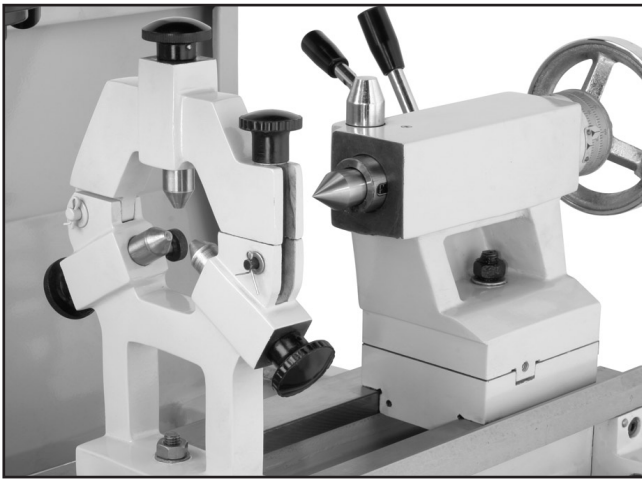

Figure 24. Inserting dead center.
1. Feed the quill out about 1" and insert the MT#3 dead center (**Figure 24**). The mating tapers provide the locking action.